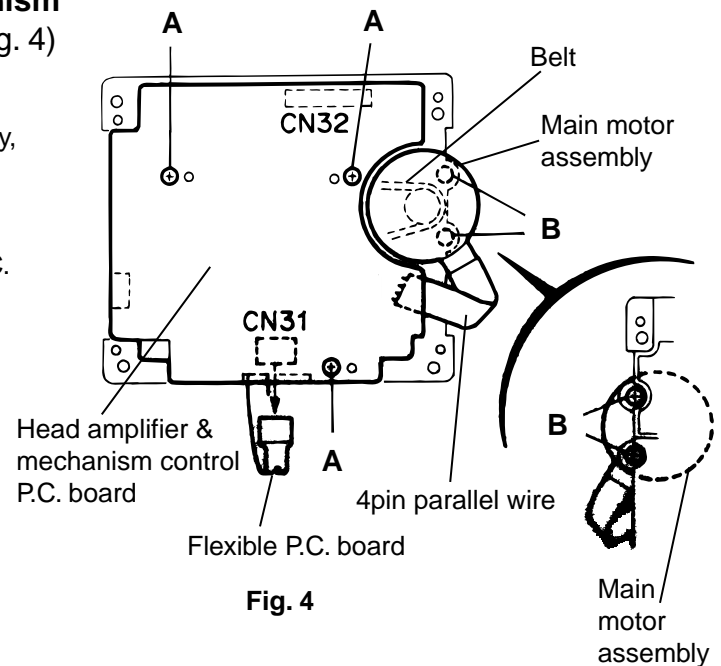

Fig. 4
## ■ Removing the head amplifier & mechanism control P.C. board (See Fig. 4)
## ■ Removing the main motor assembly (See Fig. 4~6)
1. Remove the two screws **B** retaining the main motor assembly (See Fig. 4, 4a).